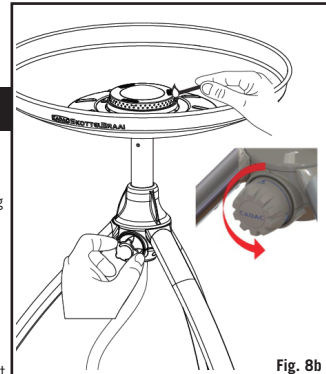

Fig. 8b
- To light the appliance, light a match or barbecue lighter. Open up the control valve slightly (K) as described under ‘General’ and light the appliance burner (G). When starting cold, the appliance may be lit from the top (See Fig.8b) prior to fitting the desired cooking surface onto the burner pan (F).